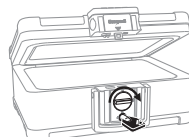

Figure 1.4
4. While holding the knob in the unlocked position, lift the lid to open (Figure 1.4).